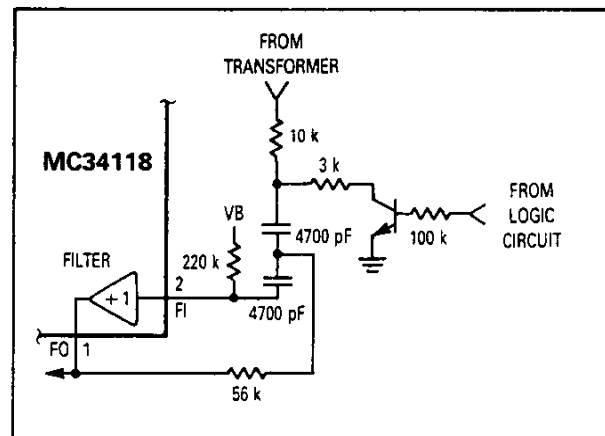

Figure 7. Receive Path Muting
4. An active high output which partially mutes the receive path during dialing. The circuit which does the partial muting is shown in Figure 7.